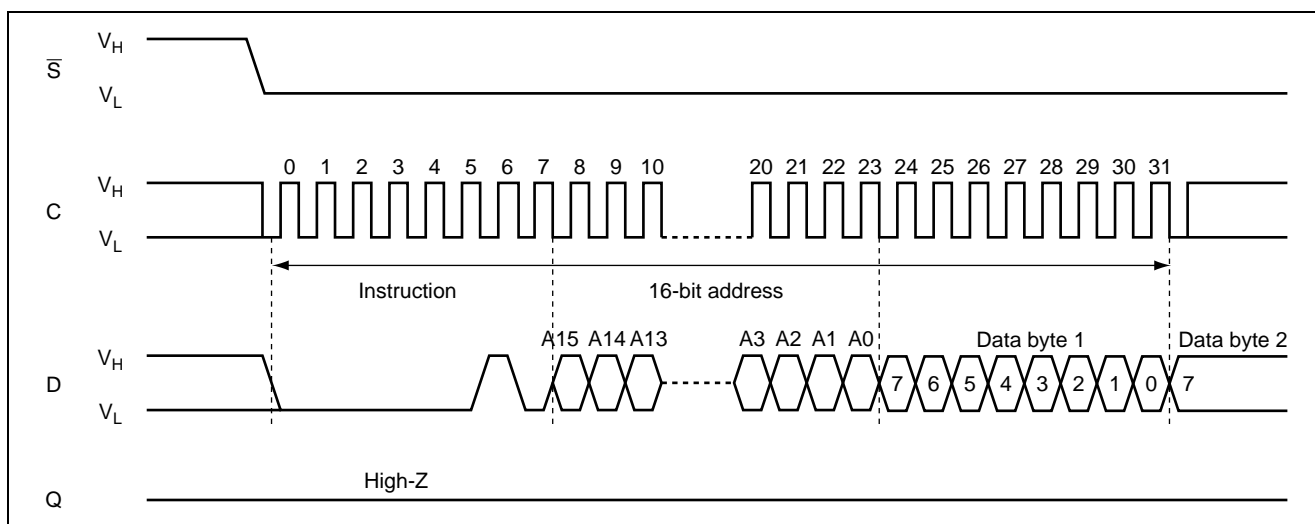

Figure 7 WRITE Sequence
As shown in figure 7, to send this instruction to the device, Chip Select (\overline{S}) is first driven low. The bits of the instruction byte, address byte, and at least one data byte are then shifted in on Serial Data Input (D).
If Chip Select (\overline{S}) stays low and the next byte of input data is shifted in, as shown in figure 7, the device continues to receive data while incrementing the address counter towards the end of the same page as that specified by the given address. If the number of data bytes sent to the device exceeds the page boundary, the internal address counter rolls over to the beginning of the page, and the previous data there are overwritten with the incoming data.